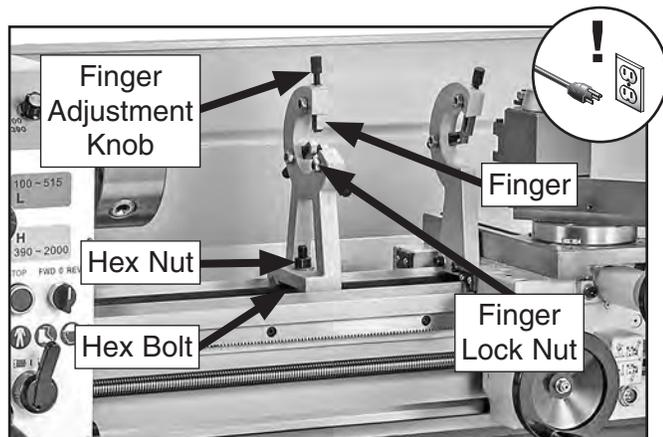

Figure 49. Steady rest components.
3. Position steady rest with base clamp where required to properly support workpiece, then tighten hex nut shown in **Figure 49** to secure it in place.
4. Loosen finger lock nuts (see **Figure 49**) so position of fingers can be adjusted.